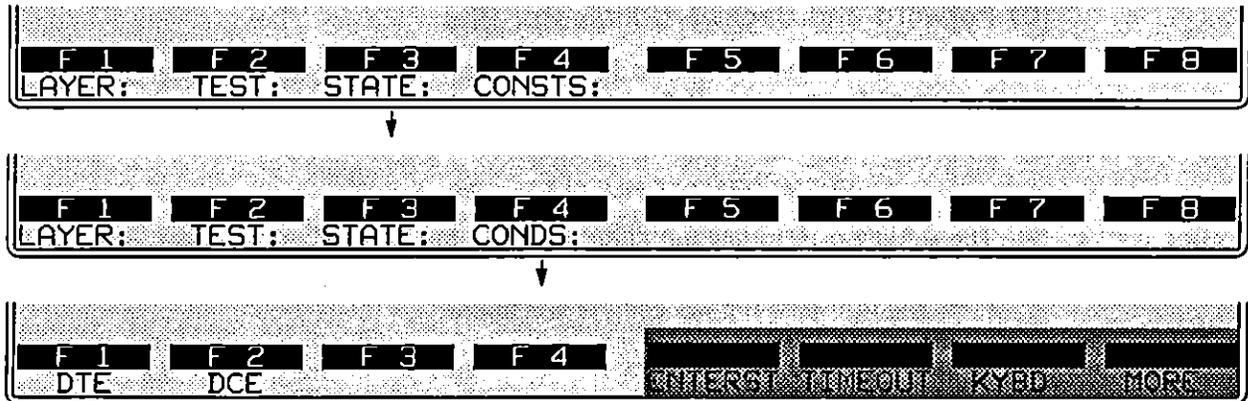

Figure 45-4 To monitor line conditions, first select *DTE* or *DCE*.
- A group of conditions and actions at Layer 2 on the Protocol Spreadsheet that facilitate SS#7 programming. Figure 45-4 shows the softkey path to the first rack of condition softkeys when the SS#7 package is loaded in at Layer 2.
When the Layer 2 SS#7 personality package is loaded in (via the Layer Setup screen), a set of conditions checks DTE and DCE leads both in monitor and emulate modes. This set of conditions is accessed by the DTE and DCE selections on the first rack of condition softkeys at Layer 2. See Figure 45-4.